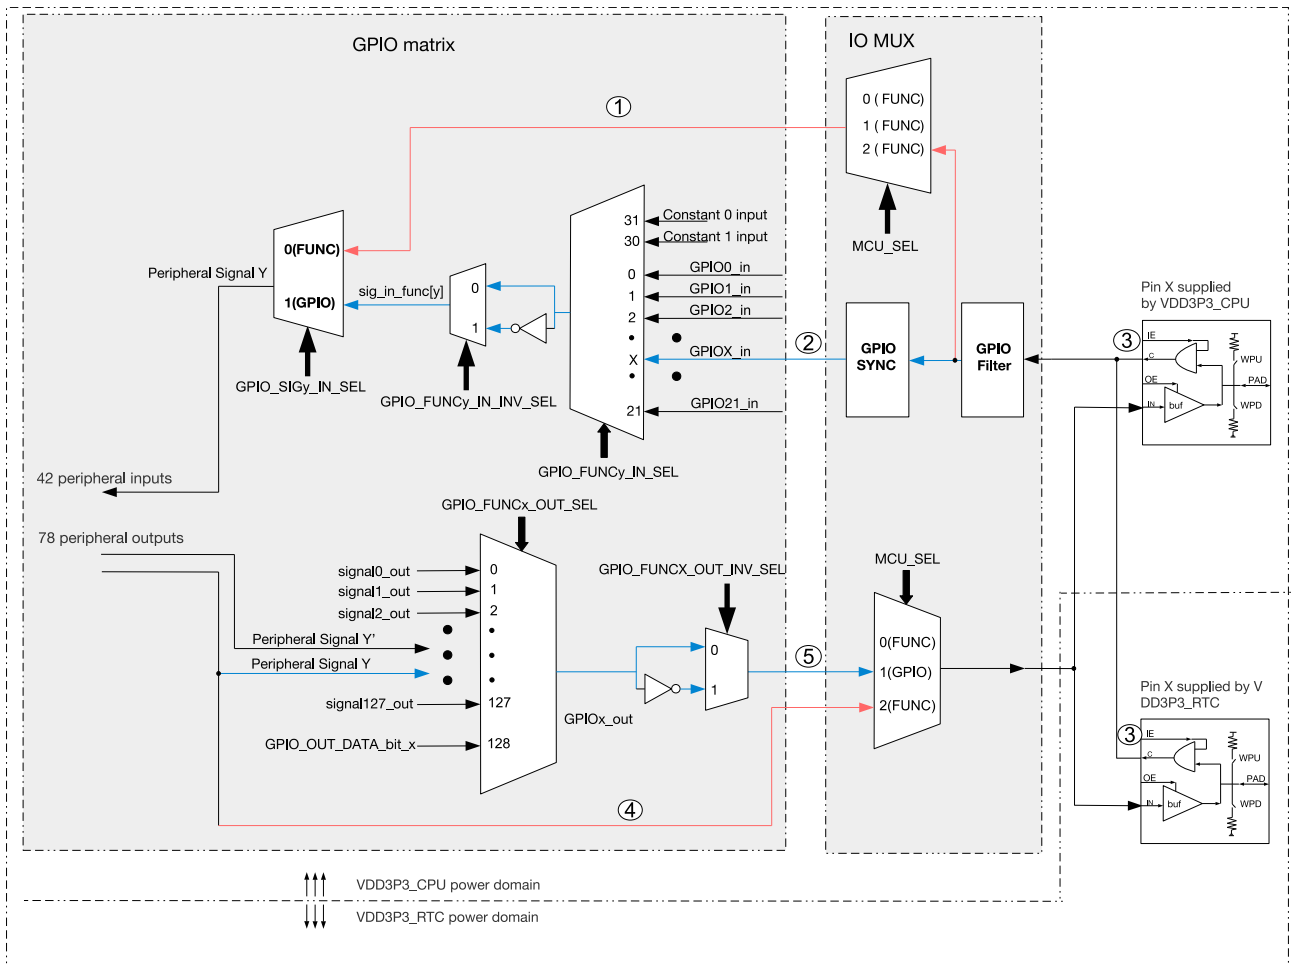

Figure 5.3-2. Architecture of IO MUX and GPIO Matrix
- Figure 5.3-2 shows in details how IO MUX and GPIO matrix route signals from pins to peripherals, and from peripherals to pins.
When signals are directed from pins using GPIO matrix, the signals will be synchronized to the APB bus clock by GPIO SYNC hardware, then go to GPIO matrix. This synchronization applies to all GPIO matrix signals but does not apply when using the IO MUX, see Figure 5.3-2.
Some of the 78 output signals (signals with a name assigned in the column "Output signal" in Table 5.11-1) can be set to go through GPIO matrix into IO MUX and then to a pin. Figure 5.3-2 illustrates the configuration.